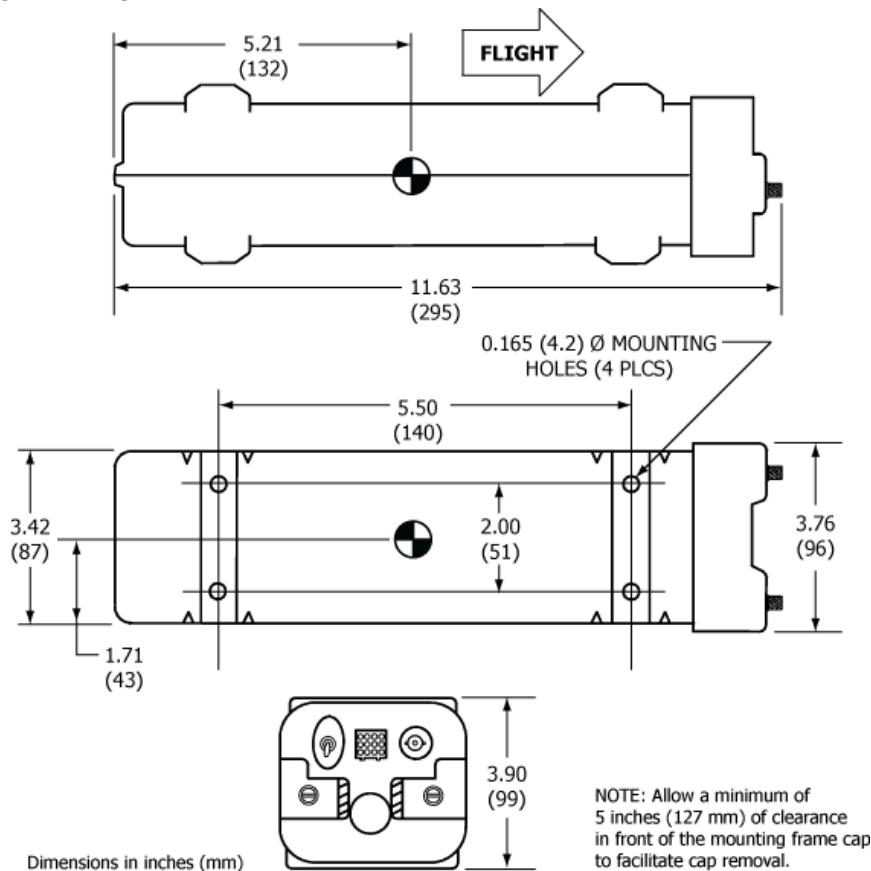

Figure 14 C406-1 Series ELT Outline and Dimensions
- 1) Select a suitable location for the mounting tray. See Figure 14. Refer to these dimensions when determining mounting location.
- 4) Mark the four holes needed for mounting the tray, using the tray as a pattern. The hole pattern is also illustrated in Figure 14 on page 42.